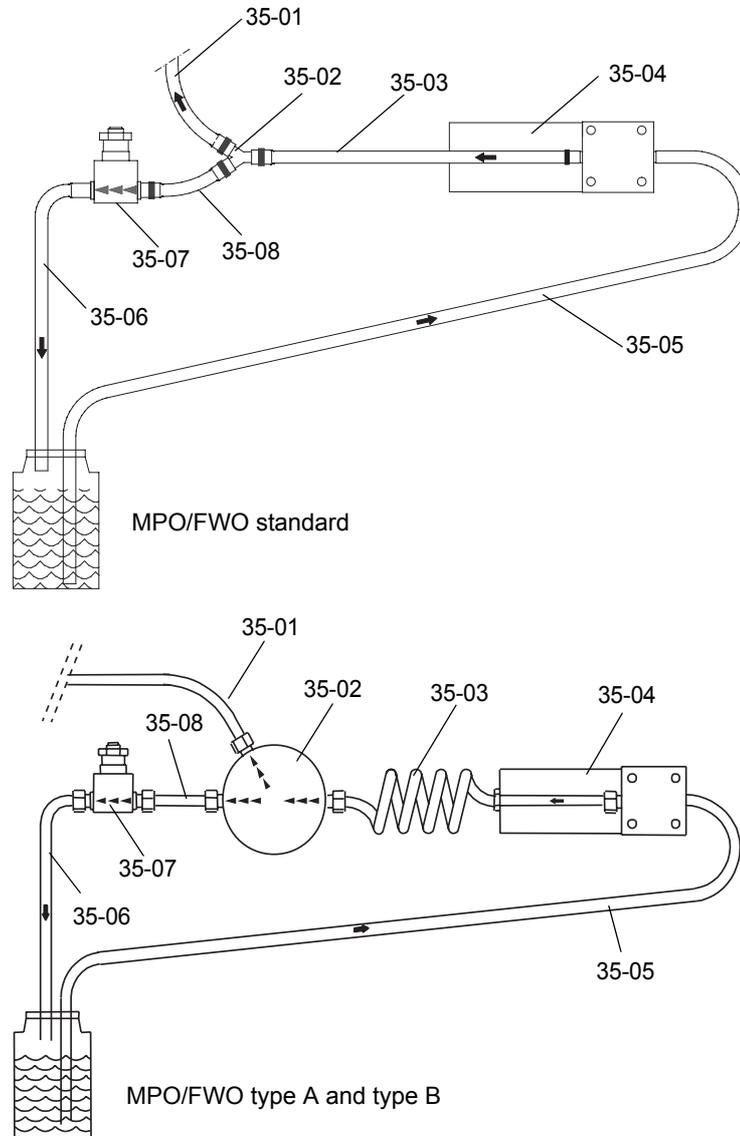

Figure 6-36 MPO/FWO tubing connections for RSP and RWS
- Tubing connections: refer to Figure 6-36, 'MPO/FWO tubing connections for RSP and RWS' or Figure 6-37, 'FWO tubing connections for RMP'.